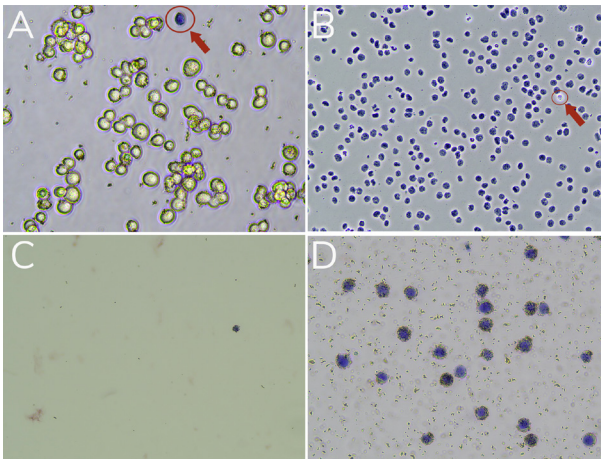

FIGURE 12
3. Transfer 10 μ L to a cell counting slide. Obtain cell counts and determine viability using a brightfield/phase microscope or cell counter. See **Figure 12**, next page.
7. Transfer 10 μ L nuclei to a new tube. Evaluate integrity using Trypan Blue staining as in Steps 2 & 3 (above). See **Figure 12** for expected results.
13. To samples that were set aside (**unbound fraction, sample slurry**), perform Trypan Blue staining as described in Steps 2 & 3. See **Figure 12** for results.